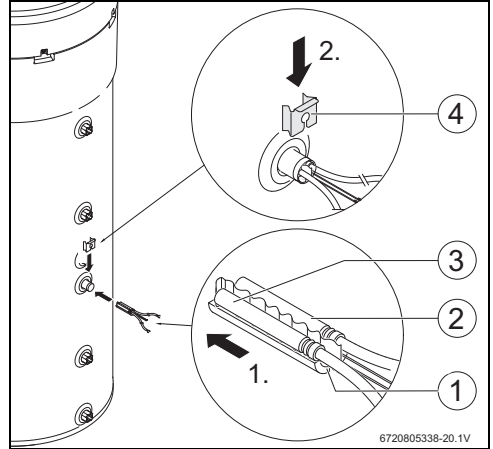

Fig. 7
- ▶ Install the installation set [1], temperature sensor NTC of the accessory [2] and the temperature sensor NTC of the control unit [3] and position them as shown in Fig. 7.